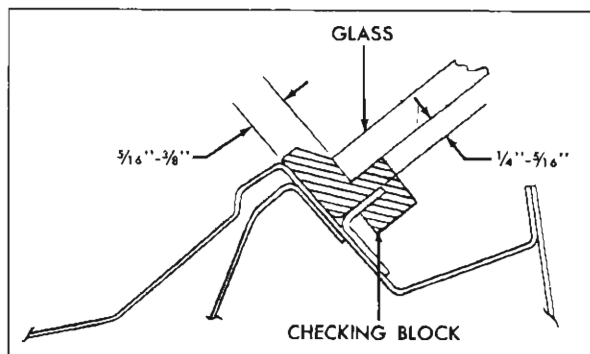

Fig. 2-8 Windshield Opening Checking Block
6. With windshield supported and centered in the body opening by checking blocks, Fig. 2-8, check relationship of glass to body opening around entire perimeter of glass. Check glass to body relationship as follows: